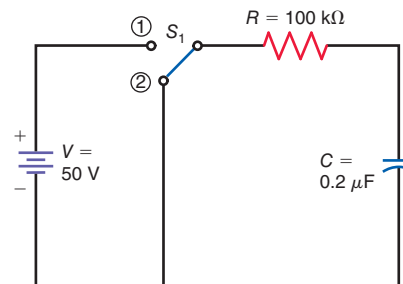

Figure 21-15
- 21.8** In Fig. 21-15, what is the time constant of the circuit with the switch, S_1 , in position
- 21.9** Assume that the capacitor in Fig. 21-15 is fully discharged with S_1 in position 2. How much is the capacitor voltage, V_C ,
- 21.10** Assume that the capacitor in Fig. 21-15 is fully charged with S_1 in position 1. How much is the capacitor voltage, V_C ,
- 21.13** Assume that the capacitor in Fig. 21-15 is fully discharged with S_1 in position 2. What is
- 21.14** Assume that the capacitor in Fig. 21-15 is fully charged to 50 V with S_1 in position 1. What is the value of the discharge current